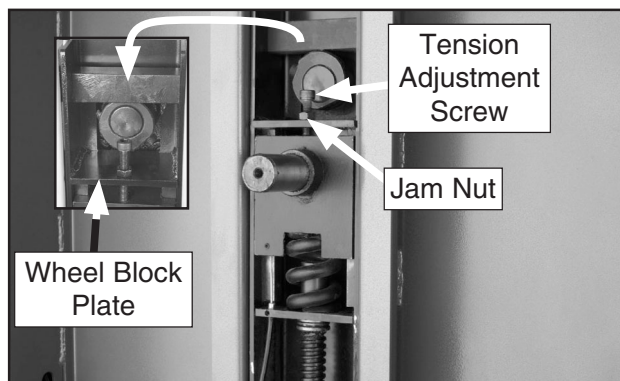

Figure 1. Example of quick release tension lever adjustment screw.
5. Thread the tension adjustment screw (**Figure 1**) down until it contacts the wheel block plate, then back it off 1-2 turns.